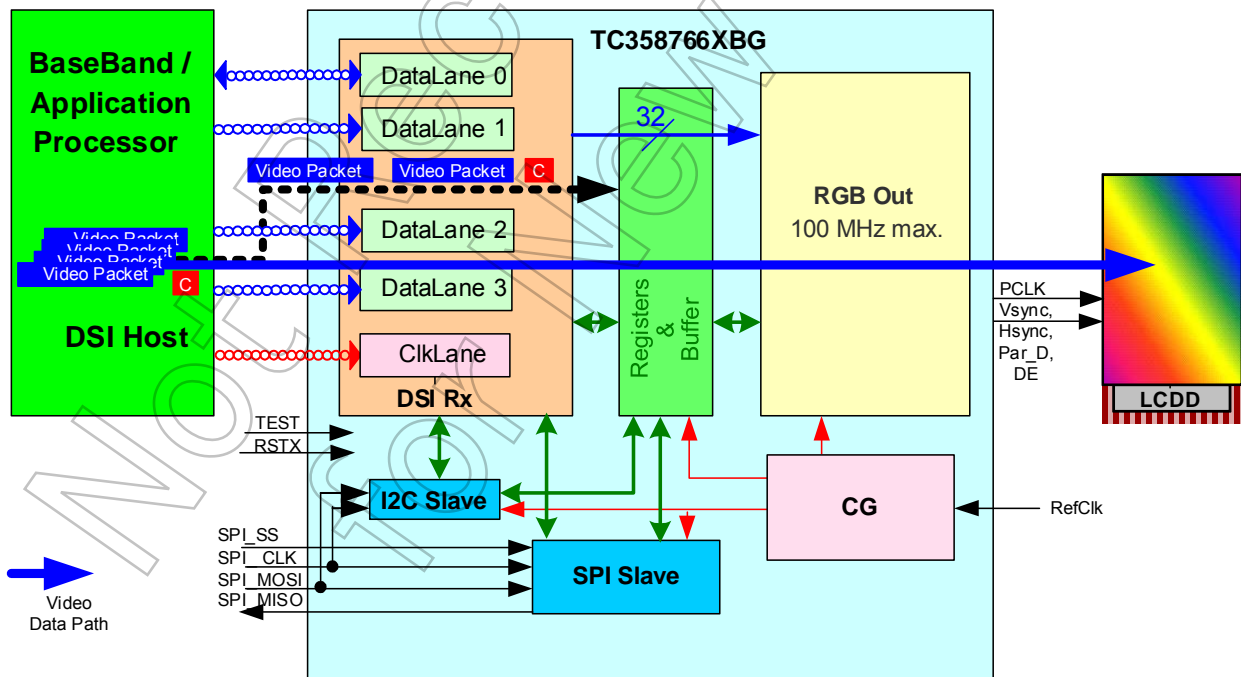

Figure 1.6 System Overview with TC358766XBG in MODE_S2P Configuration
- Mode_S2P: A system configuration where TC358766XBG may typically be used is shown in Figure 1.6. In this mode, DisplayPort™ output is not used and the chip rather behaves as a DSI to RGB convertor. In this system, TC358766XBG could be connected to a single display. In this configuration, the TC358766XBG can support displays with resolution up to WXGA (1280x800 or 1366x768). Max output PCLK is 80 MHz. Video stream source is from DSI Host.